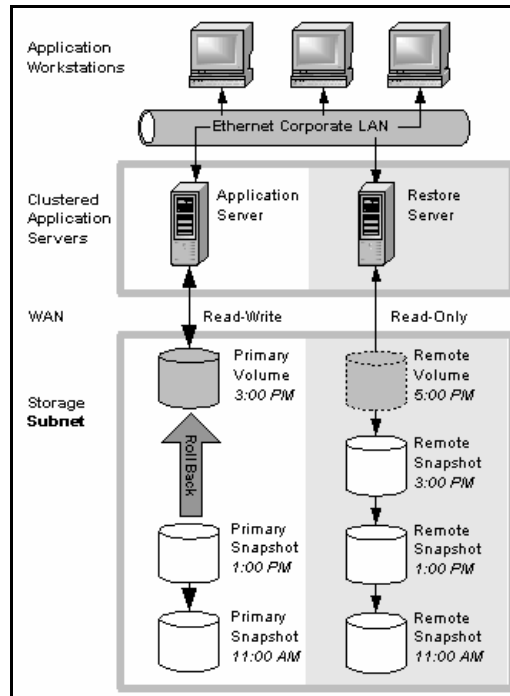

Figure 248. Non-destructive Rollback from the Primary Snapshot
- When you roll back the primary snapshot to a primary volume, any applications accessing the primary volume will no longer have access to the most current data (as the primary volume has been rolled back to a previous state). If the primary volume must be synchronized with other volumes accessed by the same application, consider rolling back the remote volume instead. Figure 248 shows rollback of the primary snapshot while leaving the remote snapshots intact.